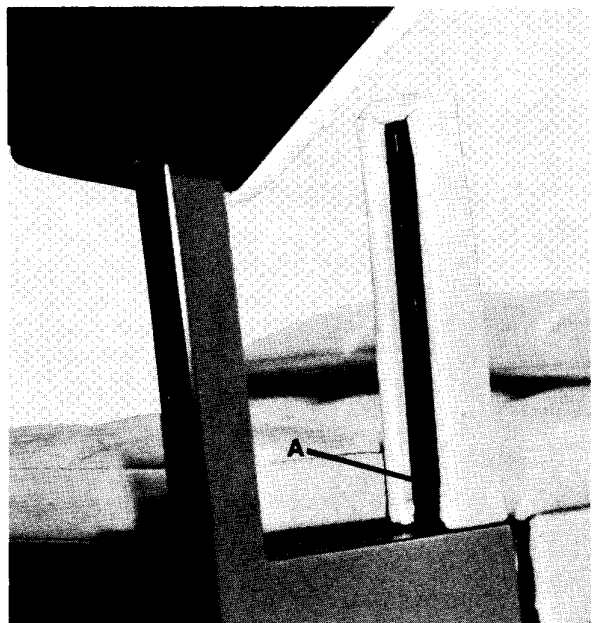

Fig. 9
- 2) Remove the upholstered armrest by removing (3) screws, Item A, Fig. 9.
- 3) Place new upholstered armrest in position, align holes, and install (3) #10-24x $\frac{7}{8}$ " screws, Item A, Fig. 9.